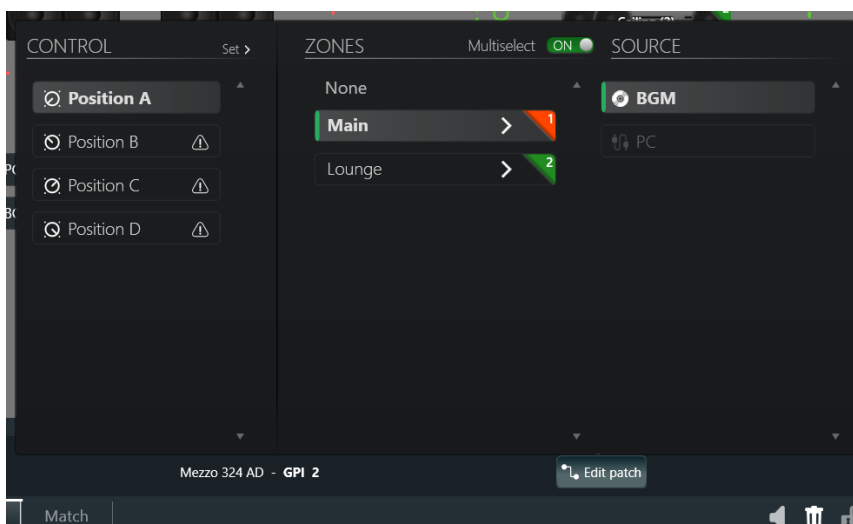

Figure 9 - Zones
4. Edit the patching of the Selector's positions as shown in the picture below (Figure 9)